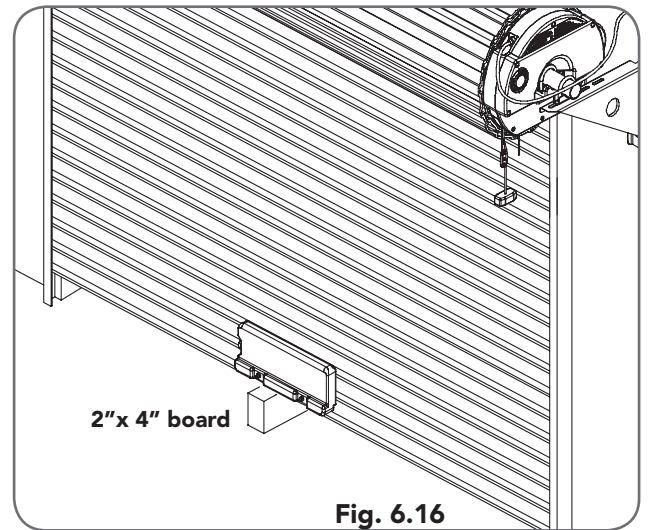

Fig. 6.16
- Place an object approximately 1-1/2"(38mm) high (or a 2"x 4" board laid flat) on the floor under center of sheet door opening (Fig.6.16)